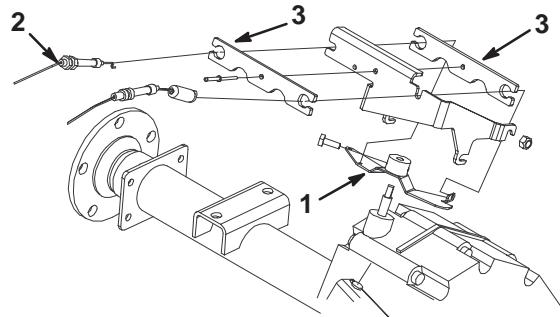

Figure 4
1. Drill out the rivet securing the security bracket and remove it (Fig. 4).
3. Remove and discard the governor cable (cable running from the carburetor to the governor bracket) (Fig. 4).
4. Install the new governor cable, routing it as illustrated in Figures 4 and 5.
8. Install the security brackets using a new pop rivet (Fig. 4).